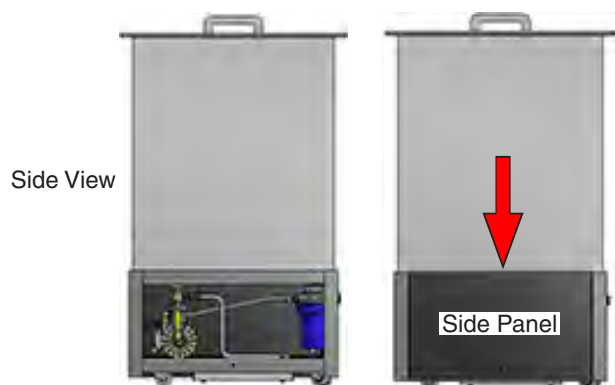

Figure 5.6e: Install one (1) side panel on each side of cart.
1. Carefully unwrap the two (2) cart side panels (X-10081), the cart front panel (X-10082), and the cart rear panel (X-10083).
2. The two (2) cart side panels mount on the sides of the cart (Figure 5.6e).